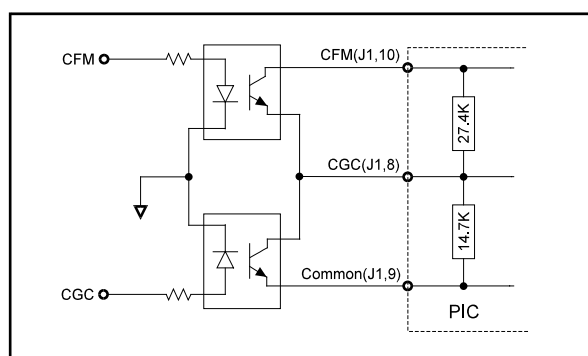

Figure 5: CFM and CGC Remote Control
- For remote selection, the scheme in Figure 5 should be used.